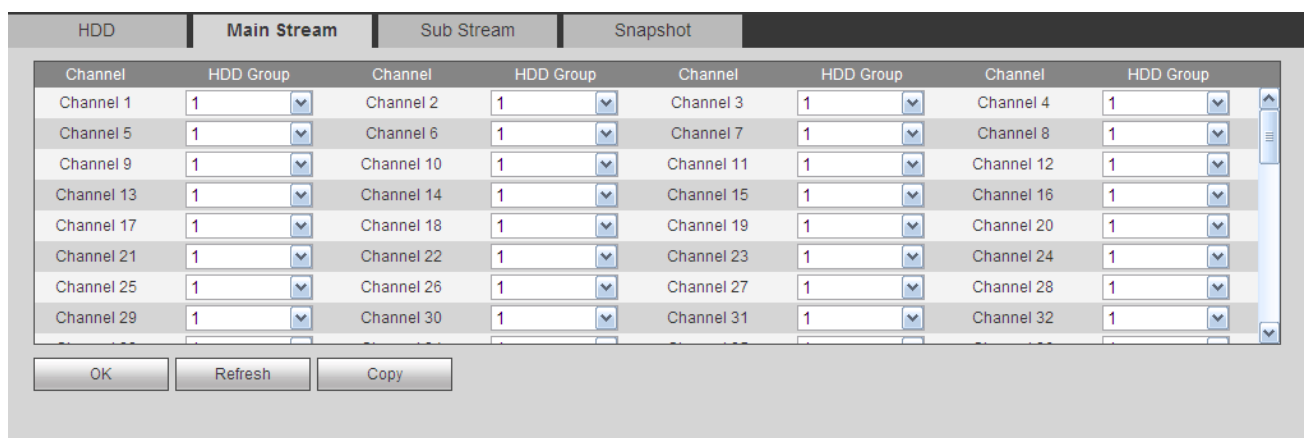
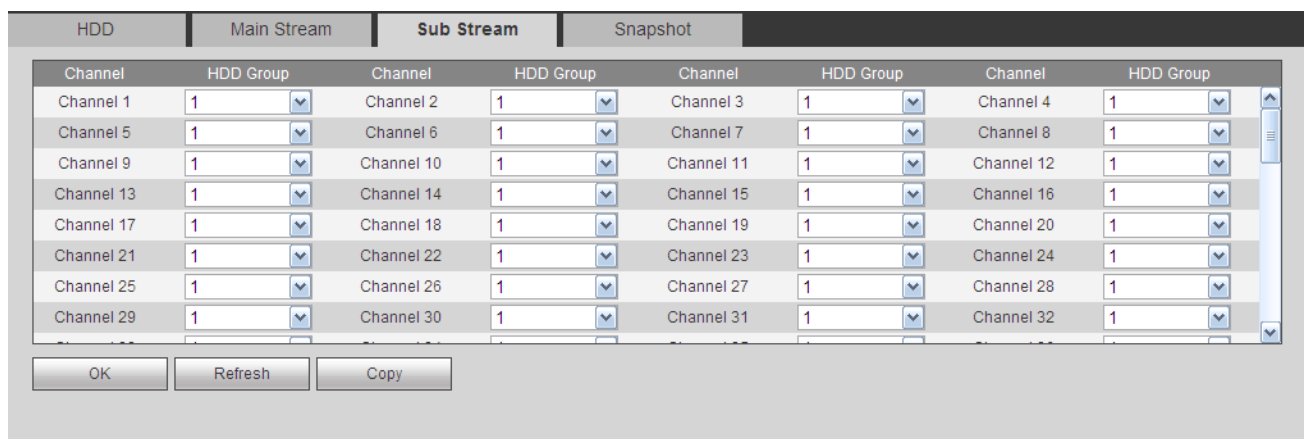
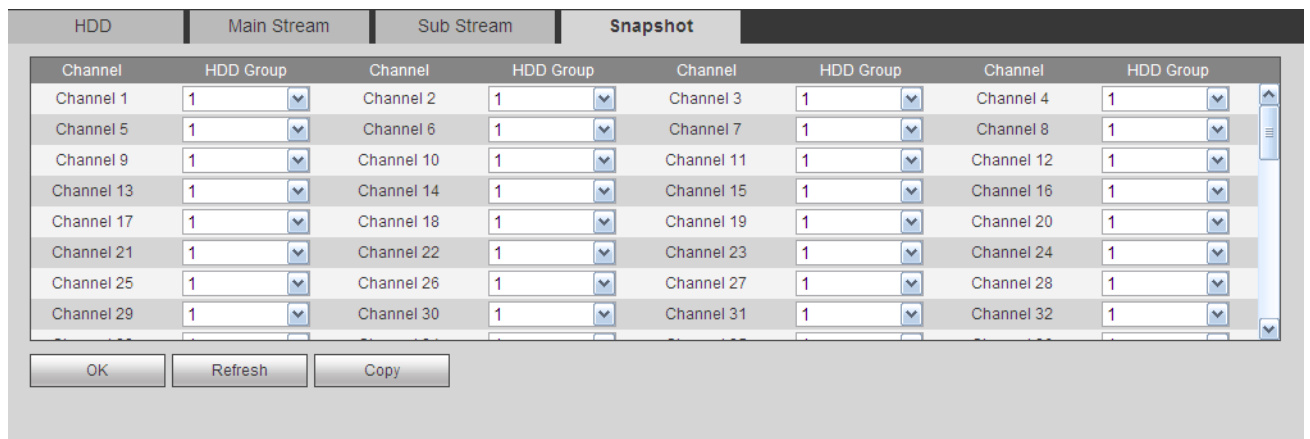

Figure 5-109
Figure 5-110
Figure 5-111
Step 3 After set HDD group, click main stream/sub stream/snapshot tab to save main stream, sub stream, snapshot image to different HDD group. See Figure 5-109, Figure 5-110, Figure 5-111